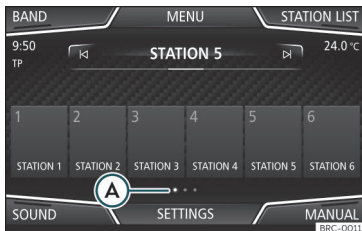

Fig. 167 RADIO main menu.
<p>Change memory bank</p>	<p>Move your finger over the screen from left to right or vice-versa.</p> <p>OR: Press one of the function buttons »» Fig. 167 (A)</p> <p>The memory buttons are displayed in three memory banks.</p>